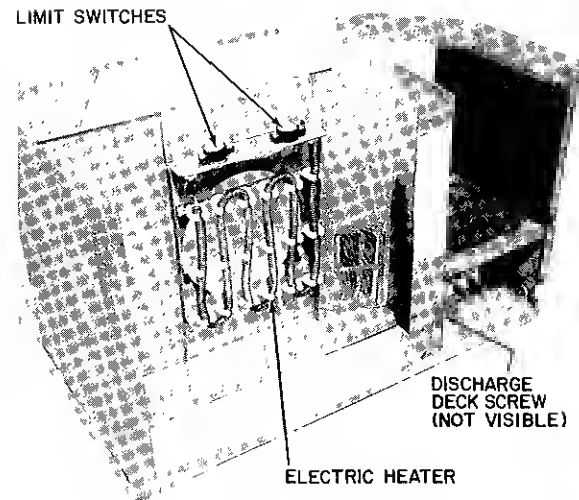

Fig. 35 — Electric Heater Assembly
- g Remove one screw (Fig 35) securing discharge deck to scroll plate
- 45 **Electric Heater Assembly** — See Electric Heater in Fig 35. The electric heater is found only in the Models 51CV and 51GY.